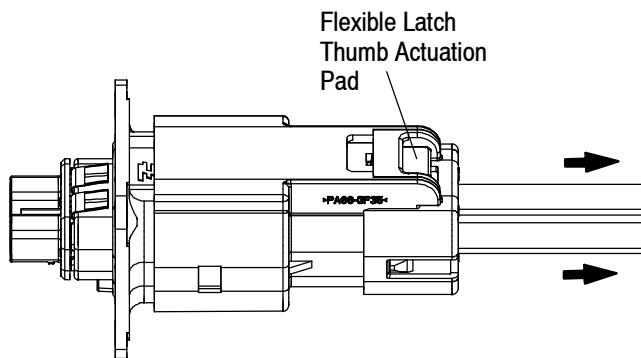

Figure 18
1. Fully depress the thumb actuation pad on the plug connector flexible latch (orange). See Figure 18.